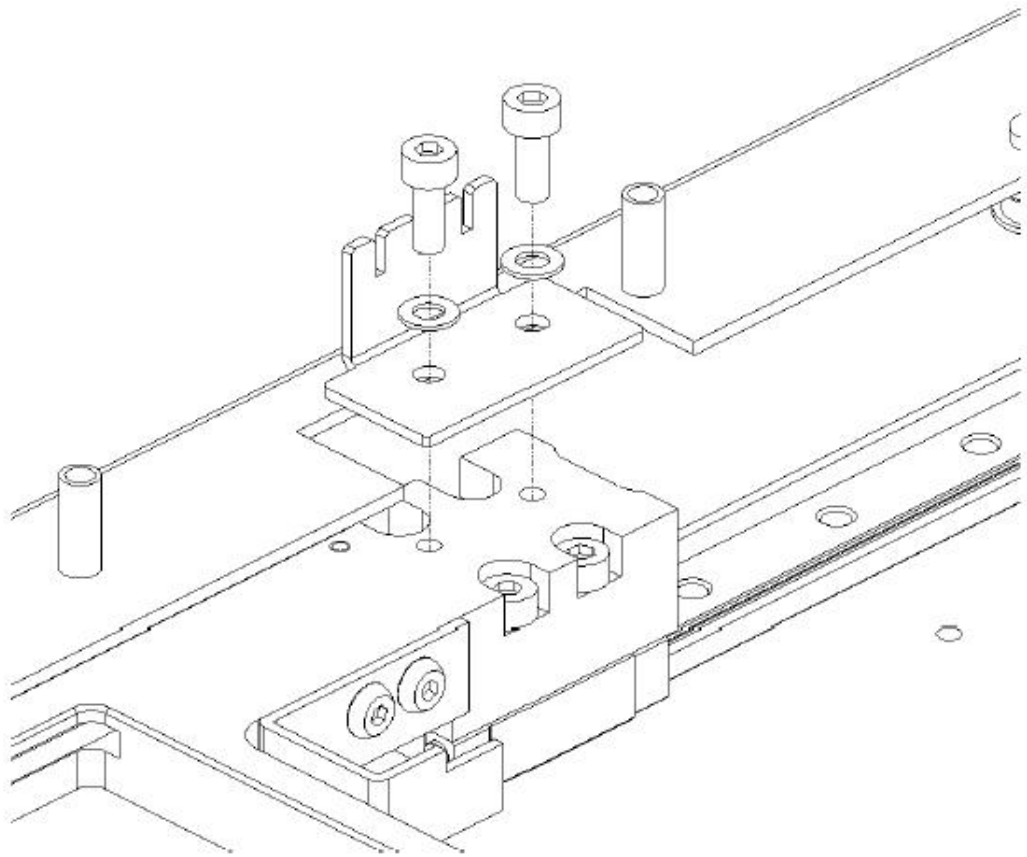

Figure N-24: Fitting the Belt Bracket
3. Fit the Reader Belt Bracket to the Plate Holder using two M3x8 Socket Cap Head Screws, two M3 Washers and Loctite 222 (Figure N-24).